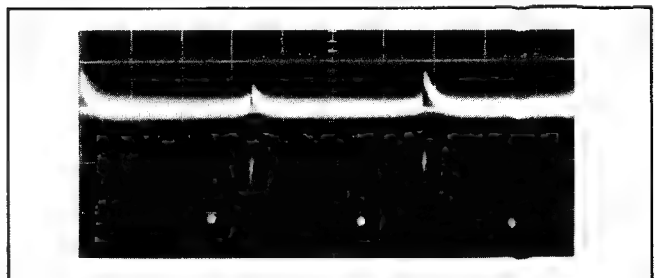

Fig. 9
- Adjust the dark shading control (V. Para.), VR609 and the dark shading control (V. Saw.), VR610 so that the signal waveform is flattest during the vertical period as shown in Fig. 9.